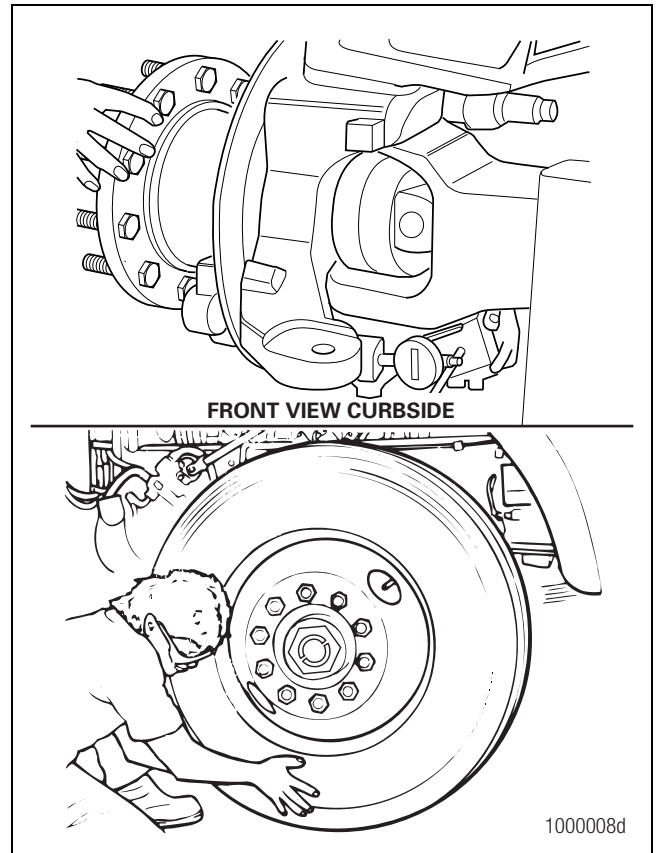

**Figure 10.8**
- Check the upper king pin bushing for wear. Install the base of a dial indicator onto the axle beam. Place the indicator tip against the side of the knuckle top, curbside, or the place indicator tip against the king pin cap, driver side. Figure 10.8.
- If the dial indicator moves a total of 0.010-inch (0.254 mm):** The upper bushing is worn or damaged. Replace both bushings in the knuckle. Refer to Section 3 and Section 6. Figure 10.8.